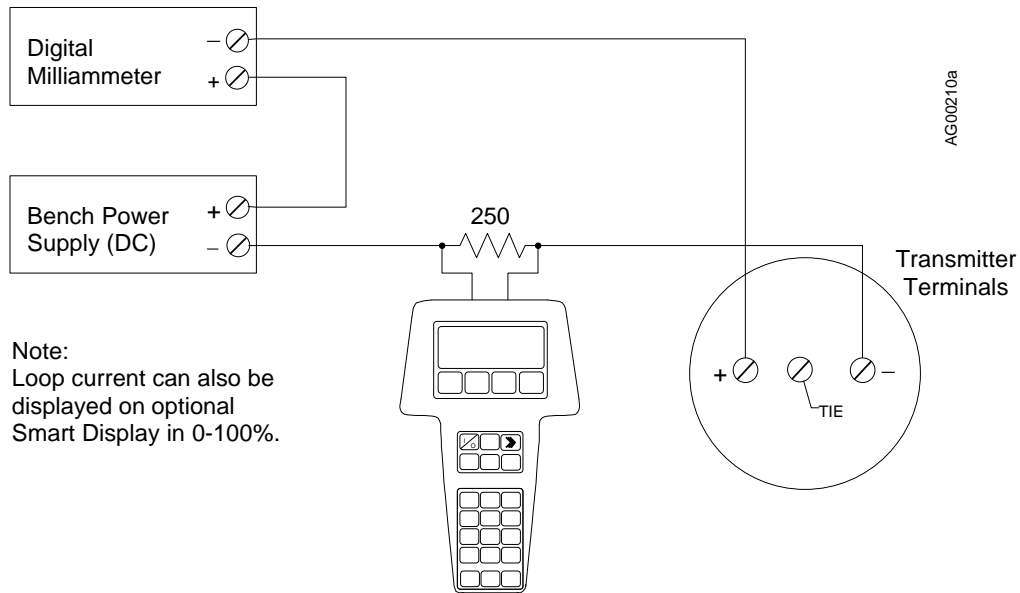
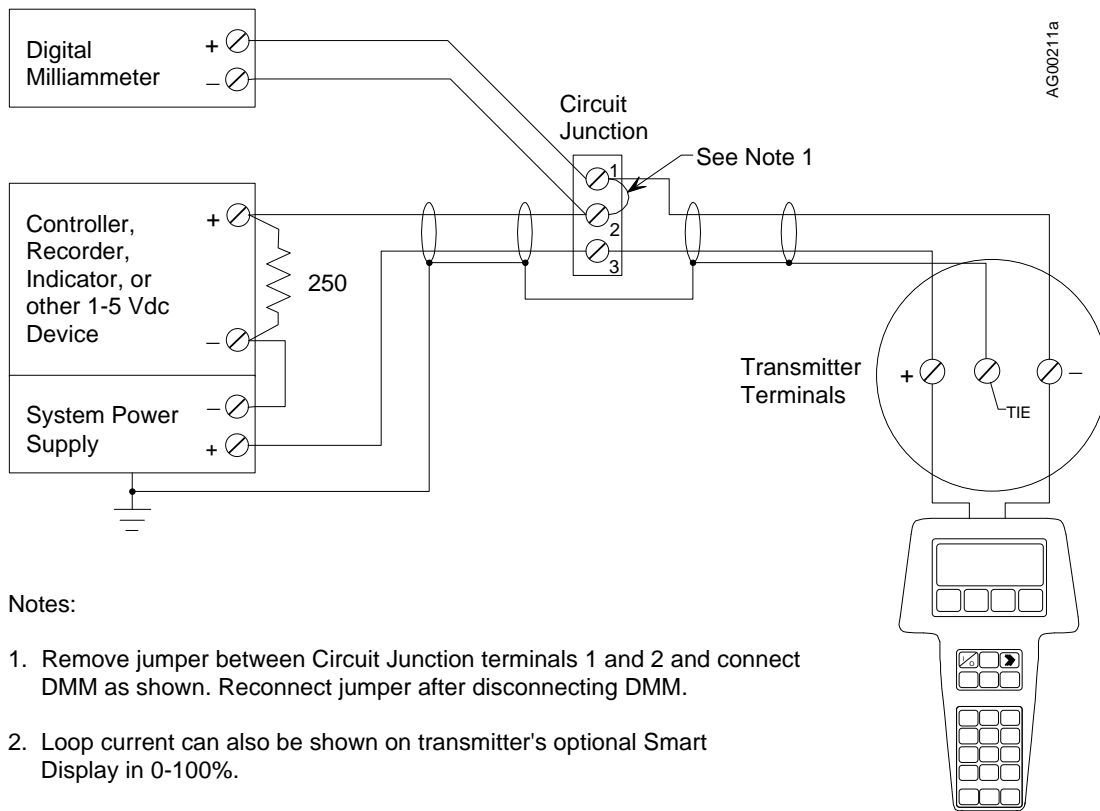

FIGURE 7-1 Bench Test Connections
FIGURE 7-2 Field Test Connections
Depending on whether bench or field calibration is to be done, make connections as shown in either Figure 7-1 or Figure 7-2.
3. Connect the HART Communicator and DMM to the loop as shown in either Figure 7-1 or 7-2. Set the DMM to measure 4-20 mA.
15. Disconnect the test equipment, reconnect the jumper on the circuit junction terminals (Figure 7-2), and if necessary return the polling address to the appropriate value.